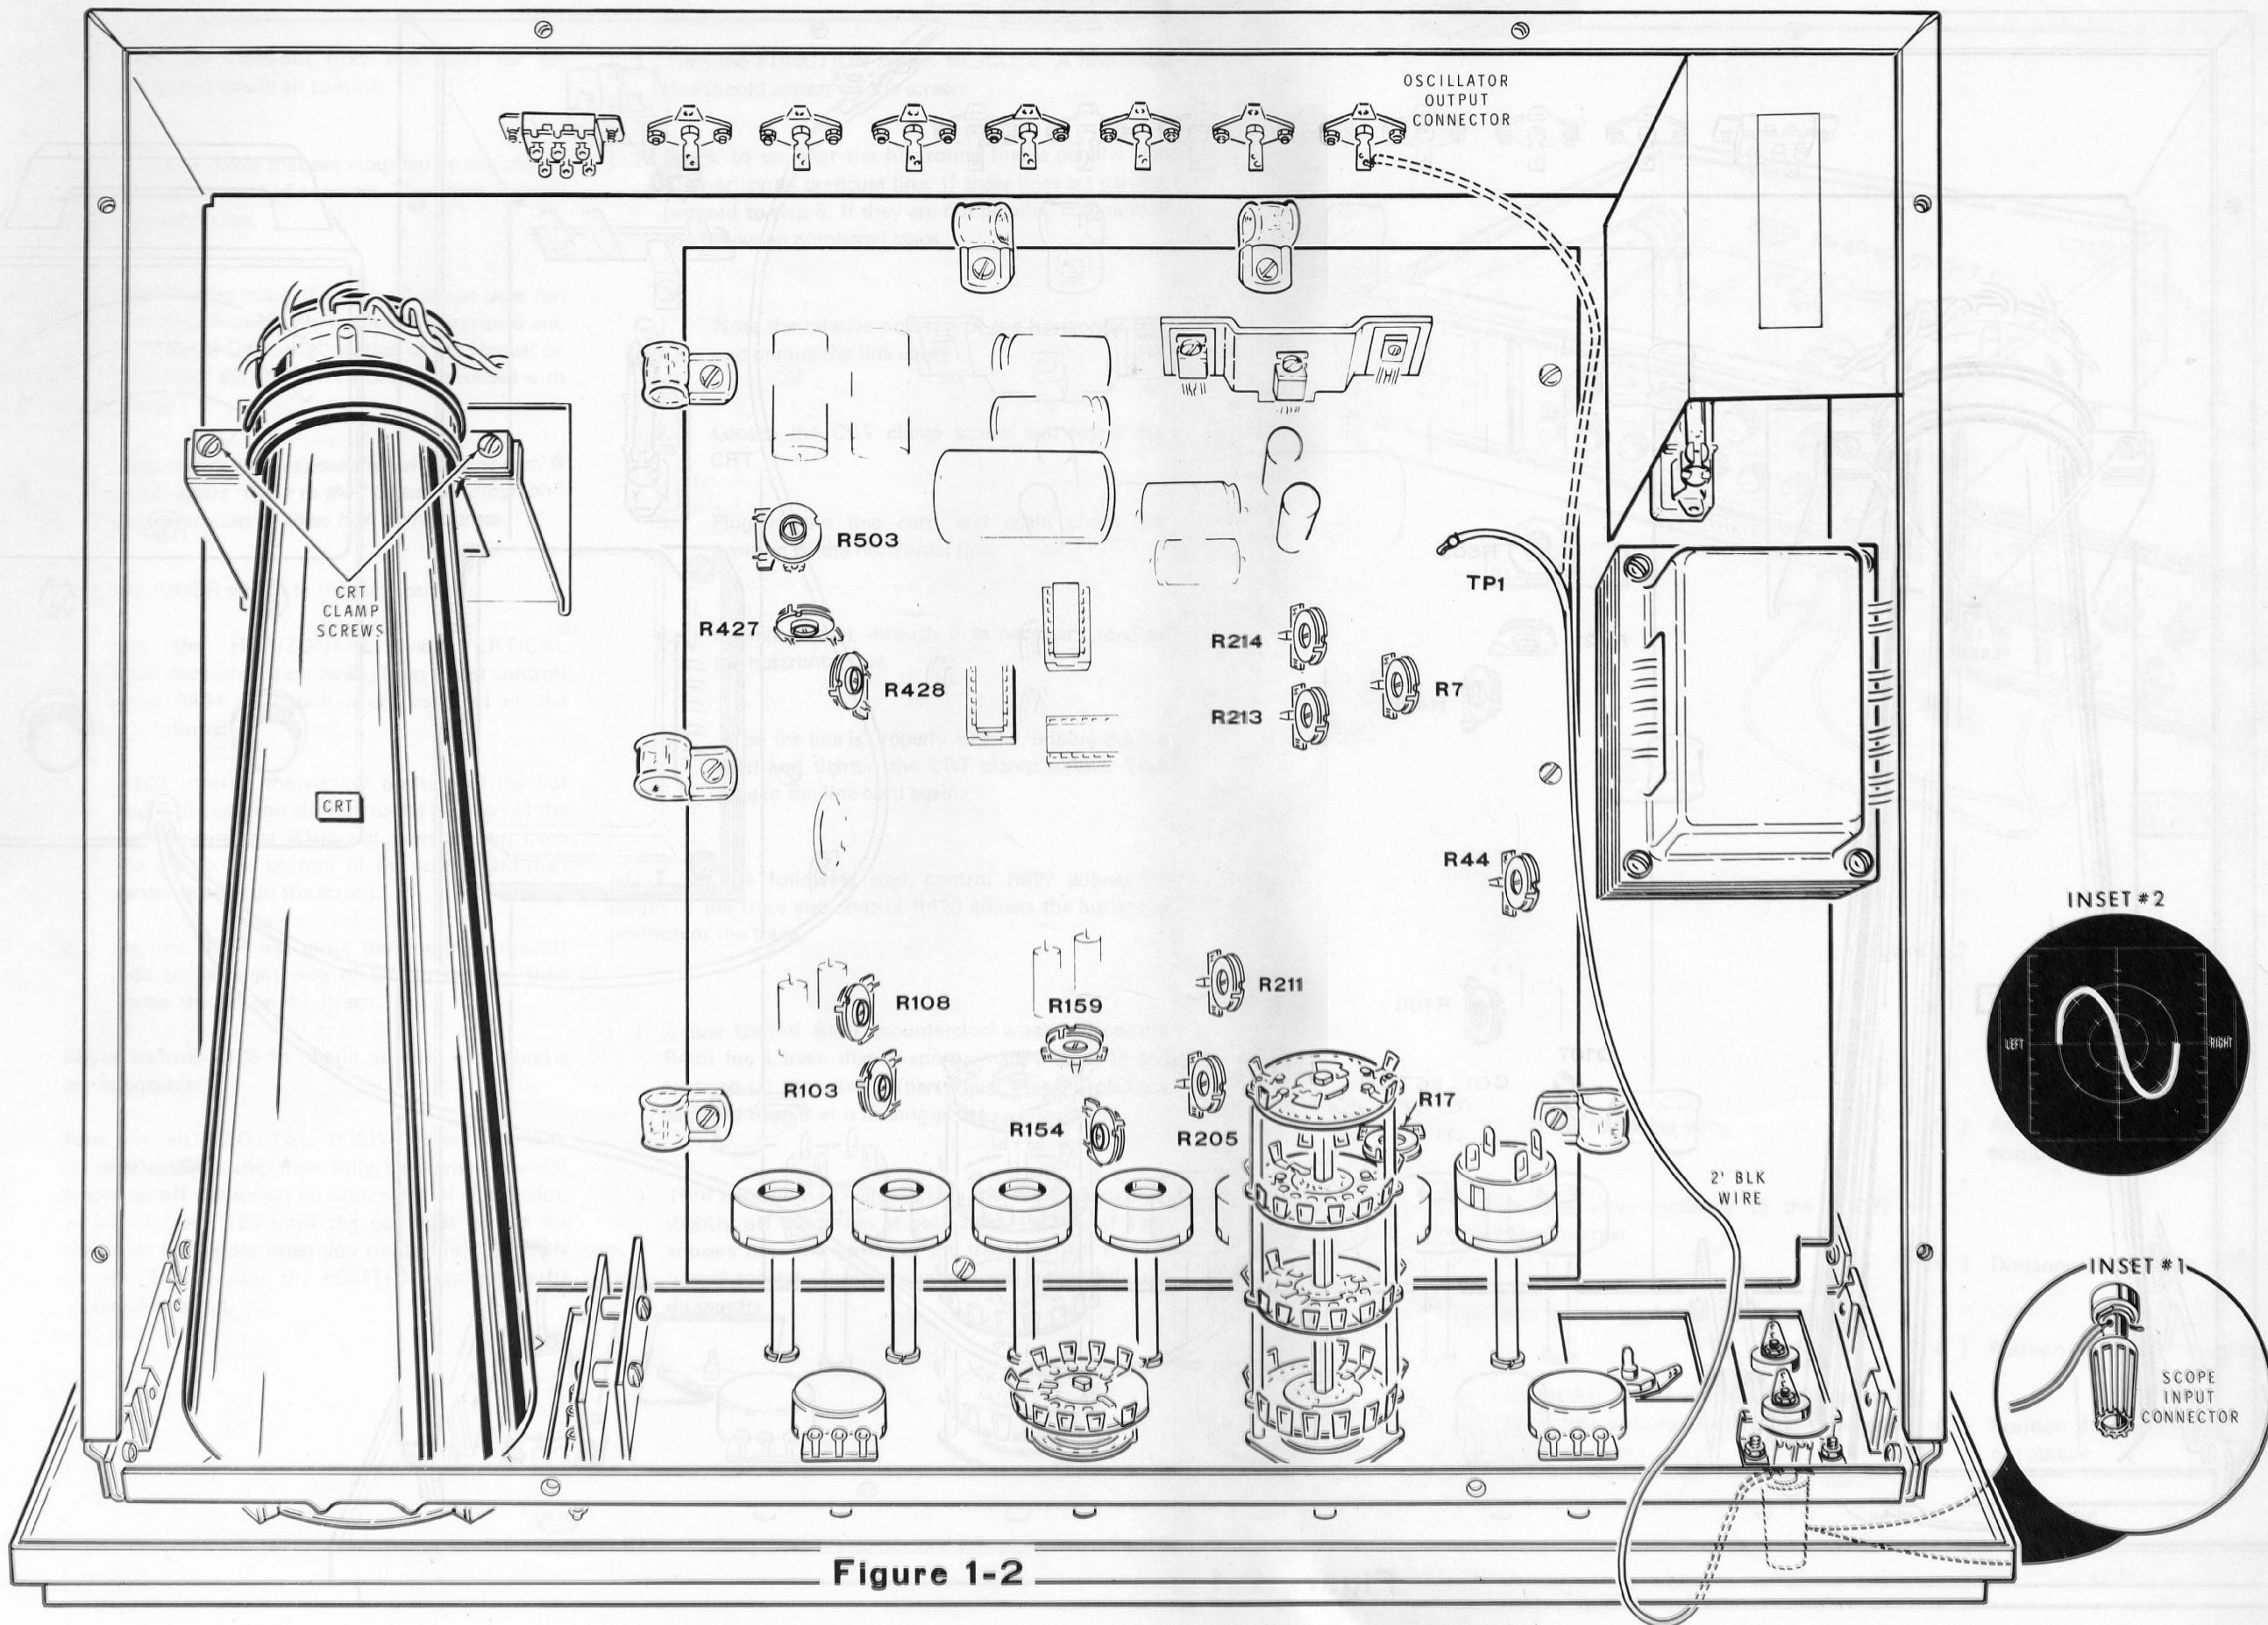

Figure 1-2
NOTE: When you adjust the small controls in the following steps, view each control from its plastic side. (See Figure 1-2, fold-out from Page 49.)
- ( ) Adjust the VERTICAL GAIN control to obtain a trace approximately three centimeters high, similar to that shown on the screen in inset drawing #2 in Figure 1-2.